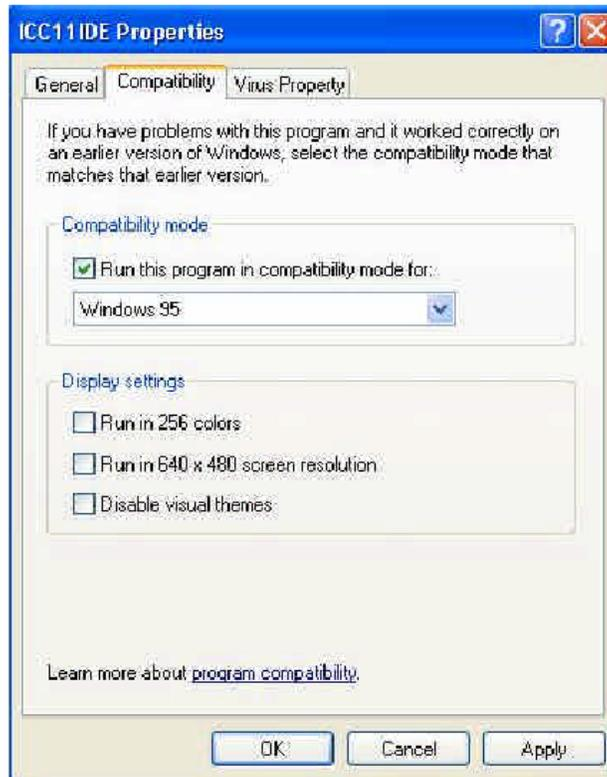

Figure 23. Running ICC11 IDE in WINDOWS 95 Compatibility Mode.
2. In Windows Explorer, select file `C:\ICCTJP\BIN\ICC11IDE.EXE` and right click on it. Refer to screen in Figure 23. Select Properties and Compatibility tab. Select Compatibility Mode and select Windows 95 in the drop-down box.